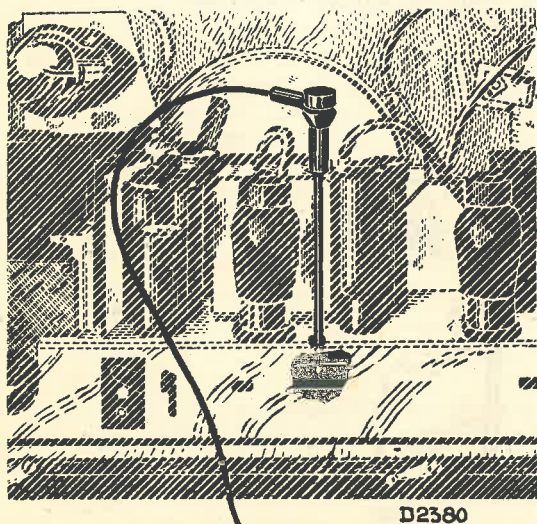

Fig. 5.
11. Connect auxiliary receiver via 25  $\mu$ F condenser (see Fig. 5). Connect output indicator to the auxiliary receiver and tune the latter to 546 K.C.